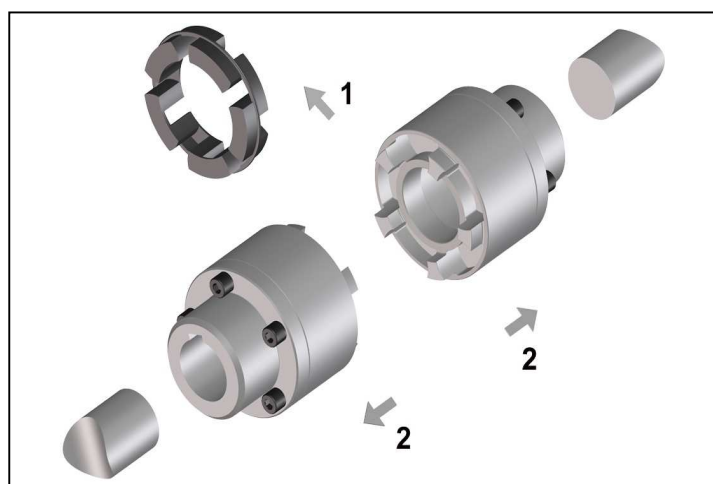

Fig. 3
- Take out the elastic intermediate ring (Figure 3, Pos. 1).
- Pull the flange hubs with the reduction sleeve onto the shaft ends to its provided position (Figure 3, Pos. 2).